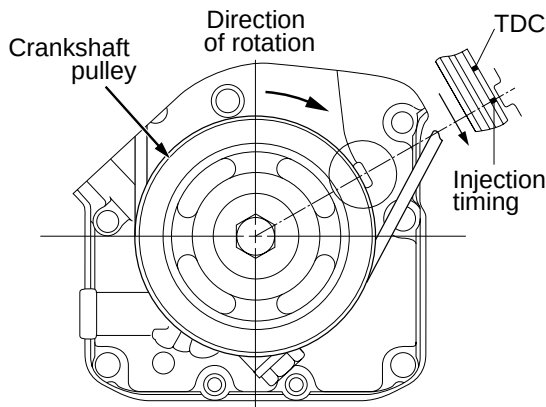

Fig. 3-5
- (1) Bring the piston in No.1 cylinder to TDC in compression by aligning the marking on the crankshaft pulley with the one on the timing gear case, turning the crankshaft by hand. (Refer to Fig. 3-5.)